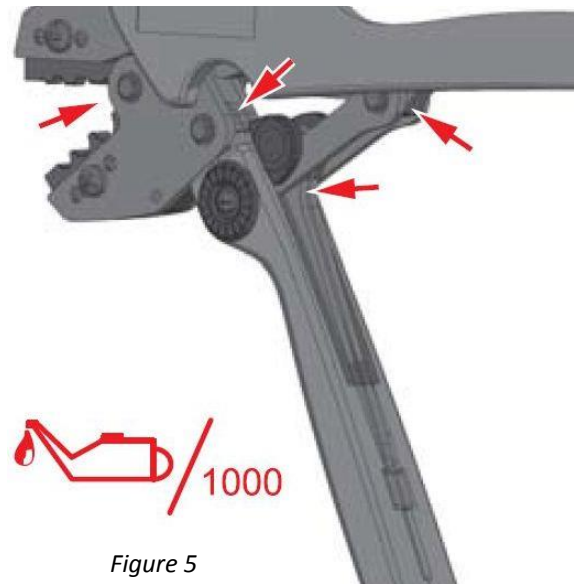

Figure 5
- Make certain all pins, pivot points and bearing surfaces are protected with a thin coat of high quality machine oil. Do **NOT** oil excessively (Figure 5).